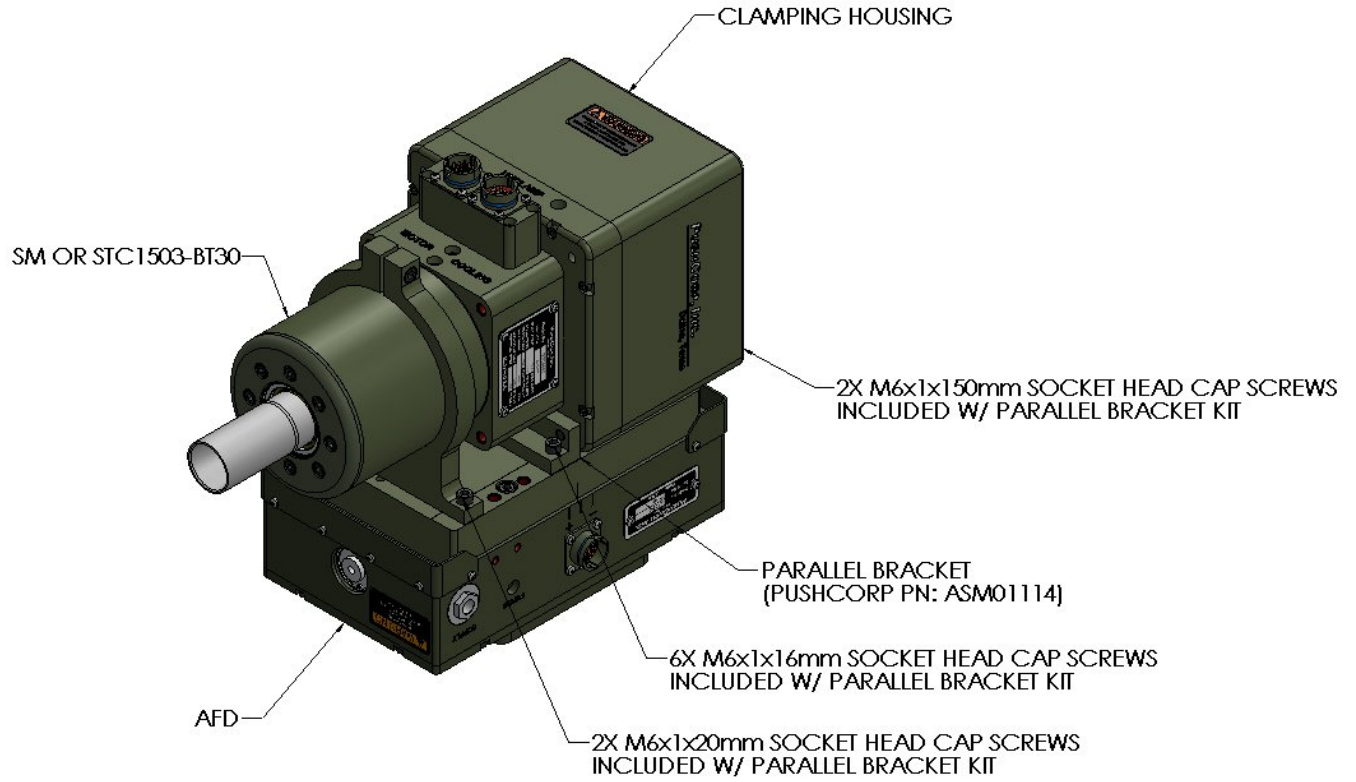

Figure 1. Spindle Motor Parallel-Axis Configuration
The Parallel-Axis configuration is shown in Figure 1, where the motor attaches to the AFD Carriage with a Parallel Bracket. The Parallel Bracket is positioned on the Carriage and attached using the four (4) supplied M6x1x20mm Socket Head Cap Screws. The 1503 is then attached to the Parallel Bracket, as shown, with two (2) M6x1x20mm Socket Head Cap Screws into the front of the Motor Housing. Two (2) M6x1 Socket Head Cap Screws pass through the Clamping Housing/Mounting Plate (length is dependent on motor SMxxxx = 25mm, STCxxxx-BT30 = 145mm). The fasteners must be tightened to the torque specified in Section 4.0.